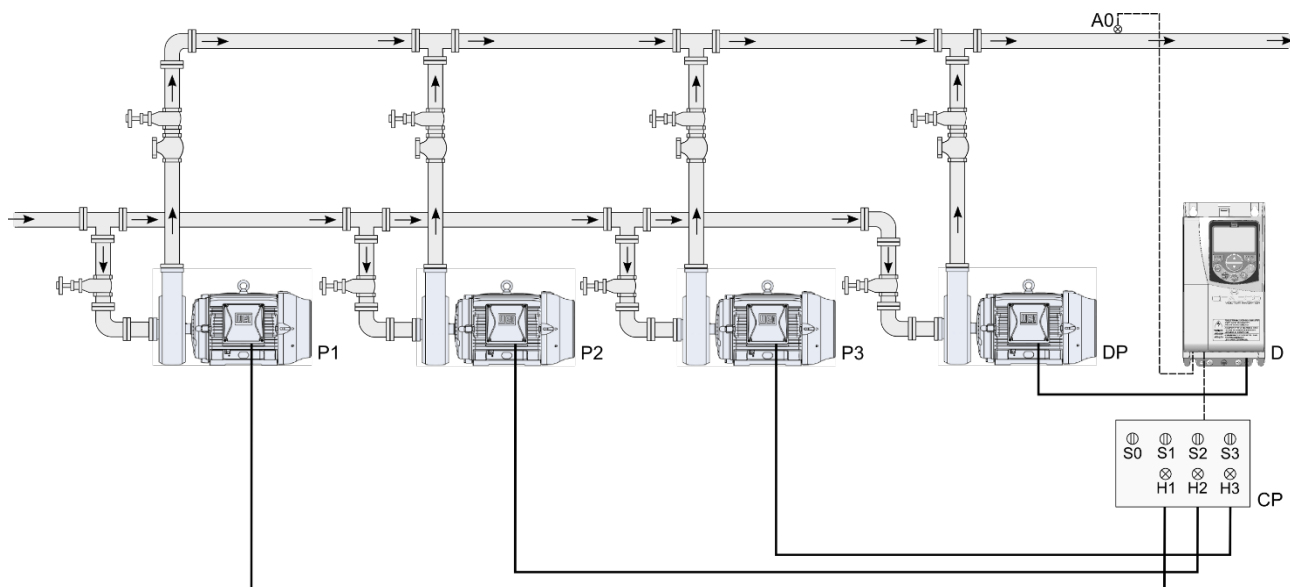

Figure 2.15 – Pump Genius Multipump application with fixed control and four pumps in parallel
The figure 2.15 presents a typical system with four pumps in parallel and control setpoint via HMI basically composed of:
The pumps 1 to 3 can be driven by contactors (direct on line or star delta start), softstarter, intelligent relays, etc. The signals H1, H2 and H3 are not necessary for the operation of the Pump Genius Multipump with fixed control, 3 pumps in parallel and control setpoint via HMI, because they only serve to indicate the operating condition of the pumps on the command panel (CP). In the figure 2.15, the signals H1, H2 and H3 come from auxiliary contacts of contactors K1, K2 and K3 which start the pumps 1, 2 and 3.